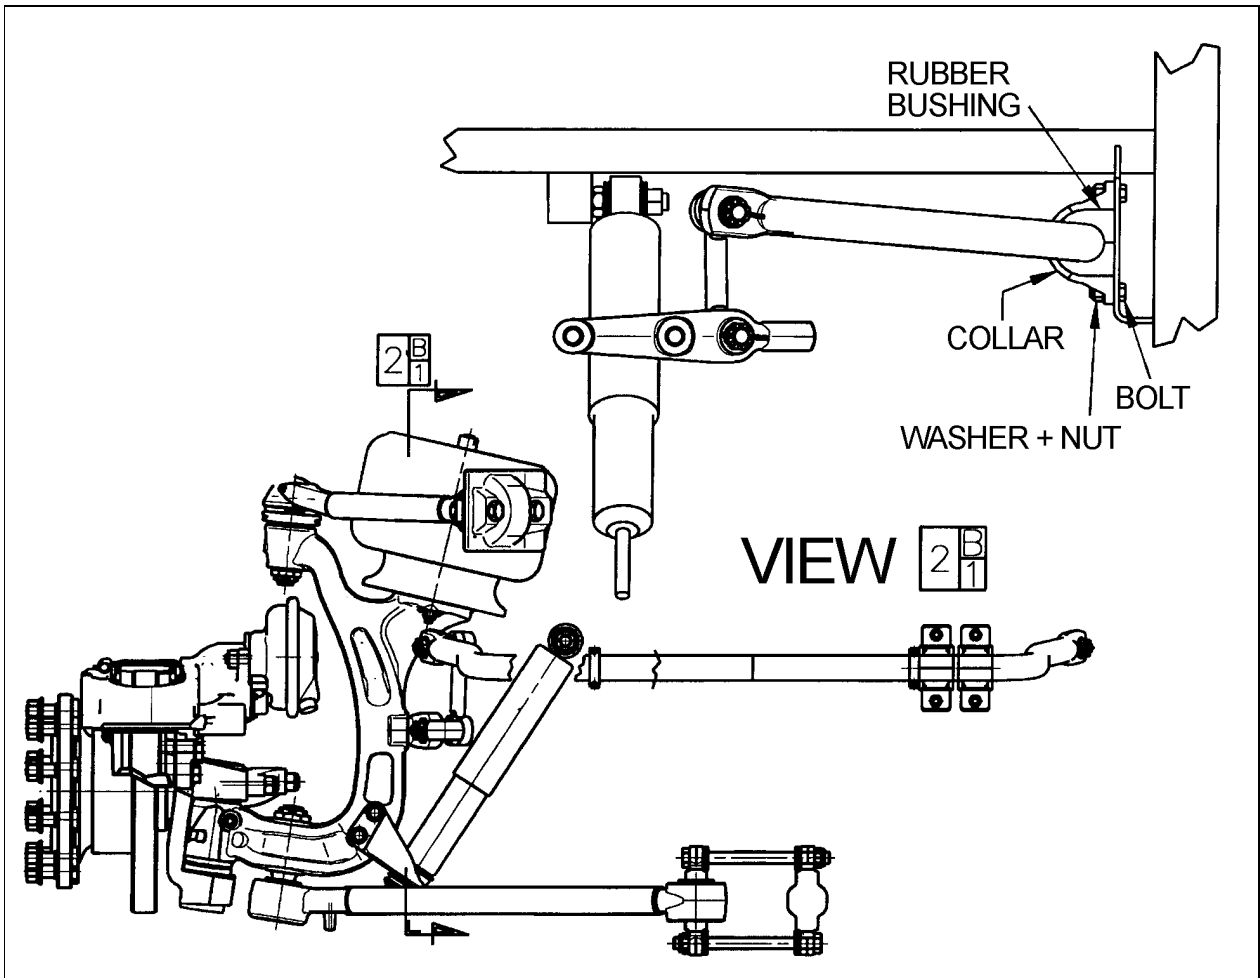

FIGURE 4: VIP OR XL2 SERIES VEHICLES EQUIPPED WITH INDEPENDENT SUSPENSION
2. Unscrew bolt then install a washer (955897) underneath each front or rear sway bar collar bolt referring to figures 4, 6 and 7 for parts location.
Note: The nuts securing the rubber bushing collars must be installed on the collar side (oval hole) in the case of independent front suspension sway bar and I-beam front axle sway bar (refer to figures 4 and 6).